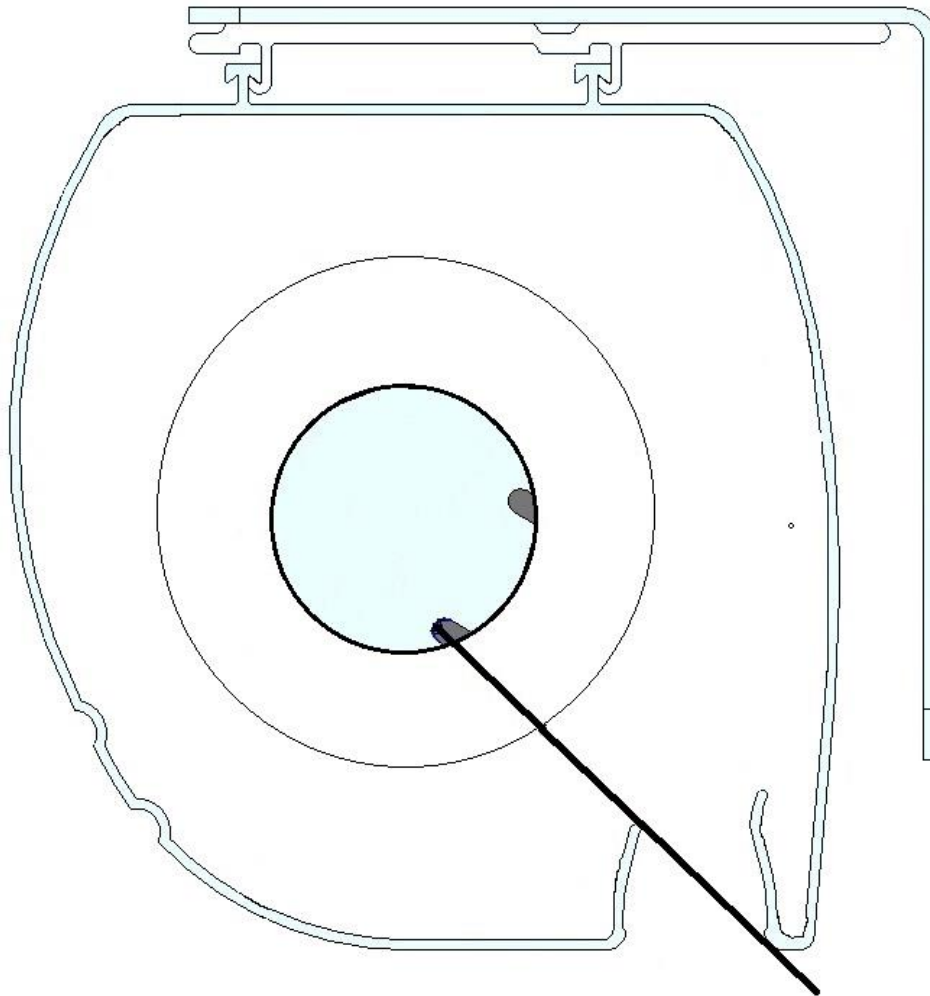

Figure 10
7. Upon delivery, the screen is preset to the limit positions specified in the order. Shall the screen position be incorrect (too low or too high), the end-positions can be adjusted using the special key provided in the installation kit (Figure 10.).